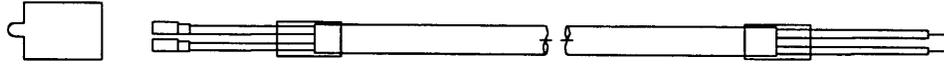

Figure 3-3: CPI Cable Set
- CP1 Cable Set (Figure 3-3)
- Cable Ties (7)